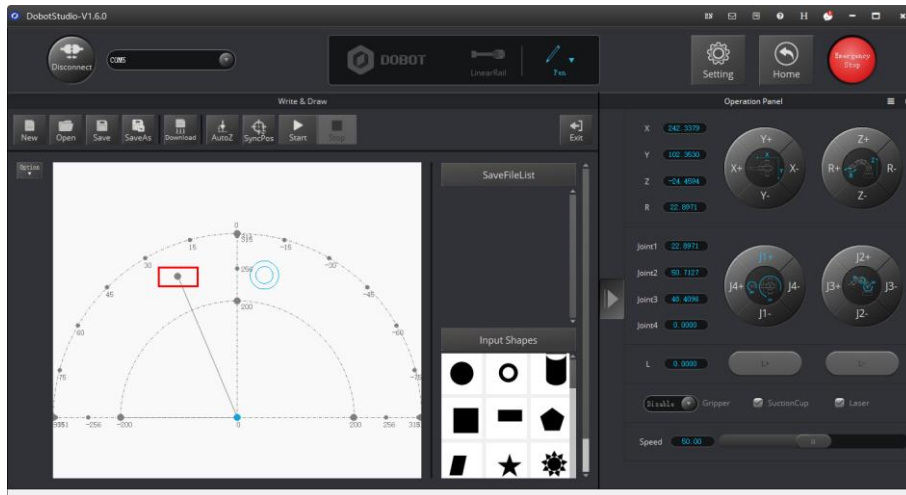

Figure 5.81 The point corresponding to the end-effector of the robotic arm
- The point marked by a red box, as shown in Figure 5.81, corresponds to the position of the end-effector of the Dobot Magician. This point changes its position only within the annular area when the robotic arm moves.